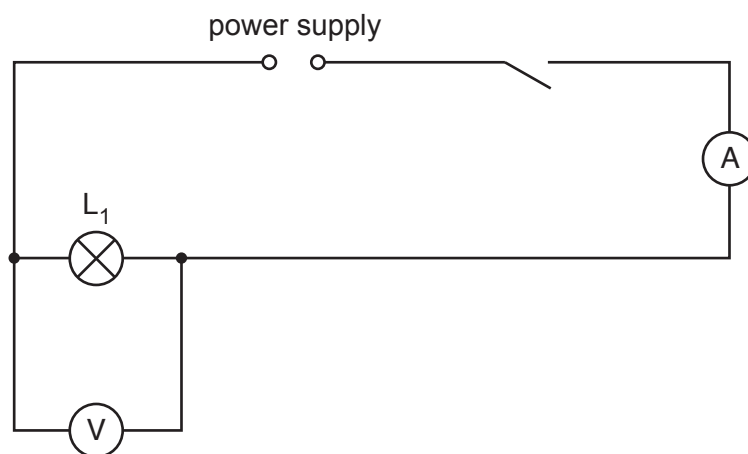

Fig. 2.1
- (ii) Three identical lamps in suitable holders, labelled ' L_1 ', ' L_2 ' and ' L_3 '. Any low voltage lamps will suffice, provided that they glow when connected as shown in Fig. 2.1.
- (vi) Sufficient connecting leads to construct the circuit shown in Fig. 2.1, with two additional leads. See note 3.
1. The components are to be connected by the supervisor as shown in Fig. 2.1.
Set up the circuit so that it is arranged as shown in Fig. 2.1.